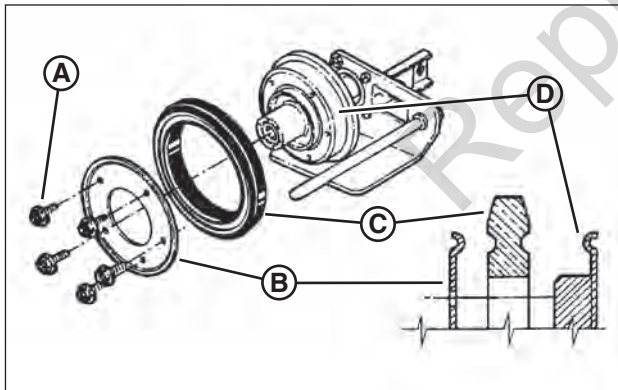

Figure 30: Replacing the driven disc rubber ring
3. Remove the five machine screws (A, Figure 30) and plate (B) which secure the rubber ring (C) to the driven disc hub (D).